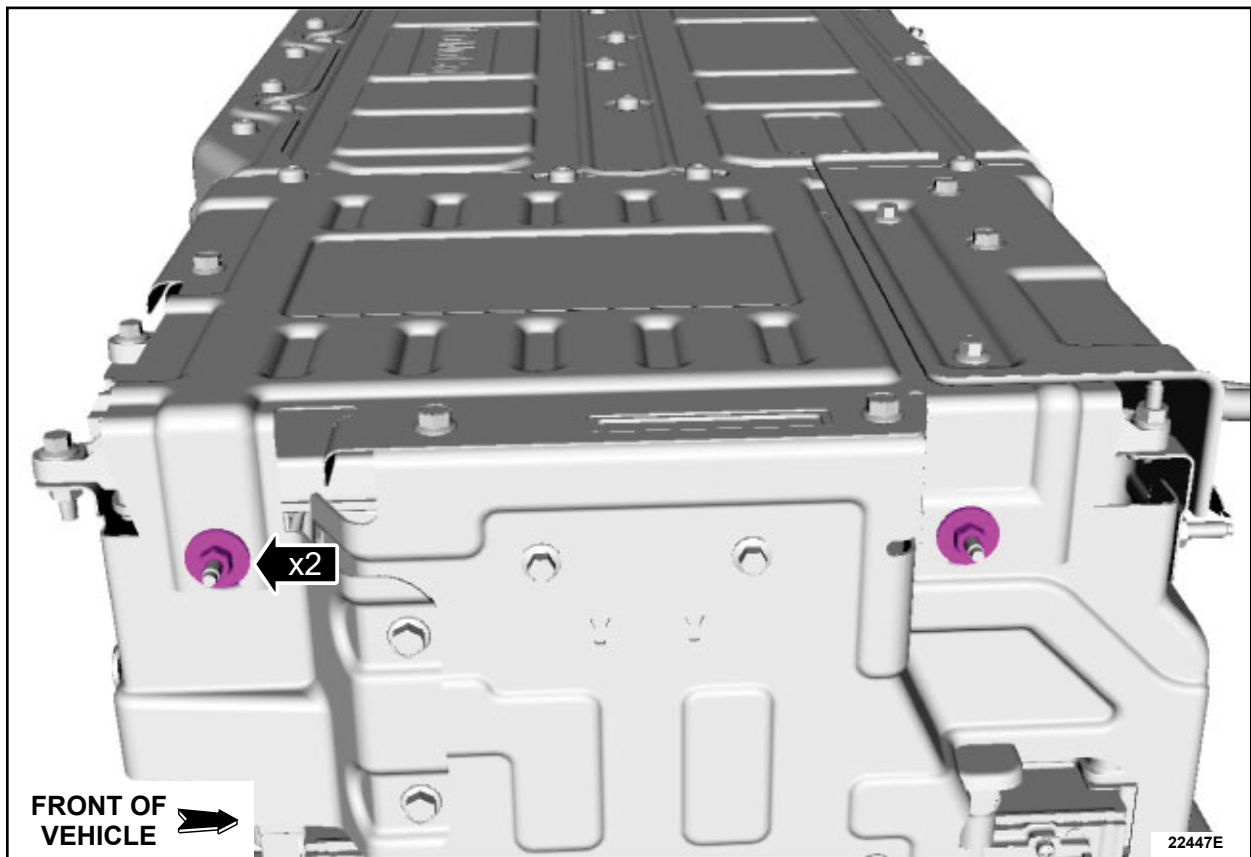

FIGURE 5
8. Loosen the retainers on the passenger side of the high voltage battery cover.. See Figure 5.